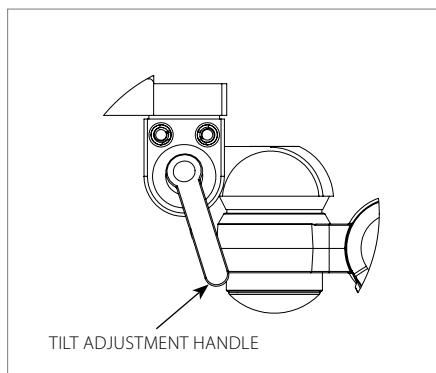

Figure 8
1. If additional tilt tension is desired, tighten the 2x **TILT TENSION SCREWS** using a 1/4" **ALLEN KEY** (Figures 8 & 9).